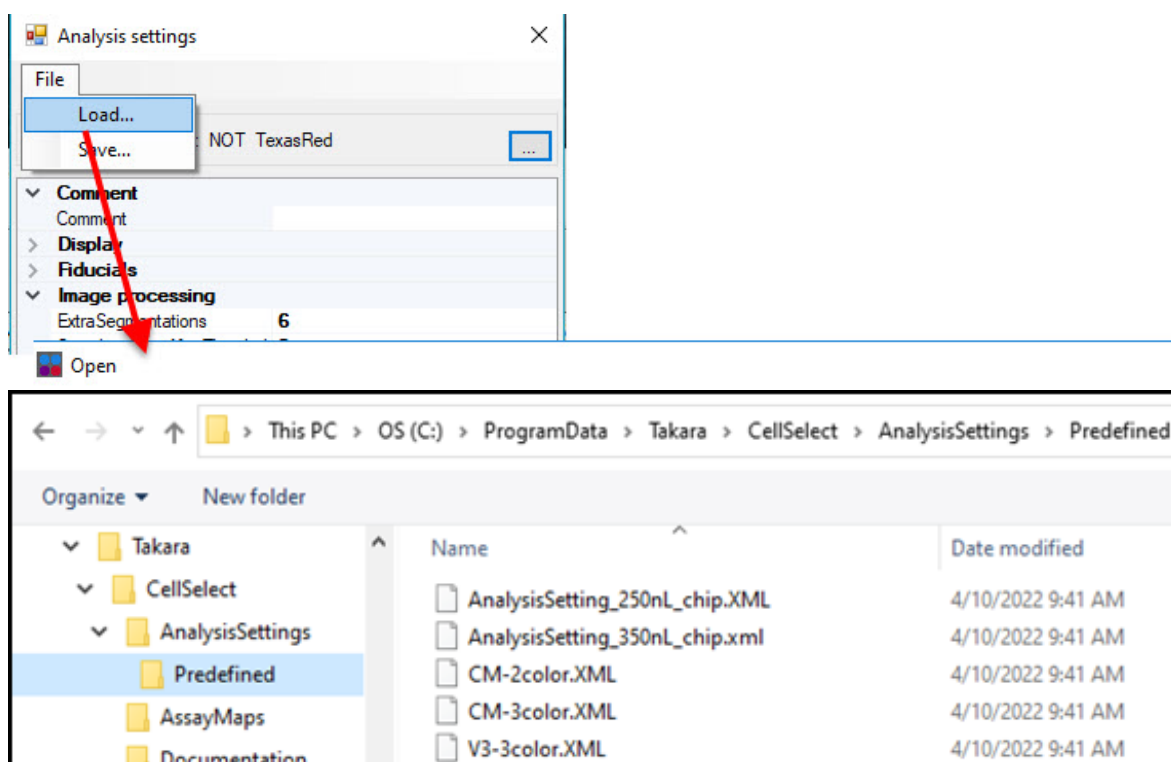

Figure 64. Loading/reloading the XML file for single-cell analysis.
1. Select **File > Load...** (Figure 64).